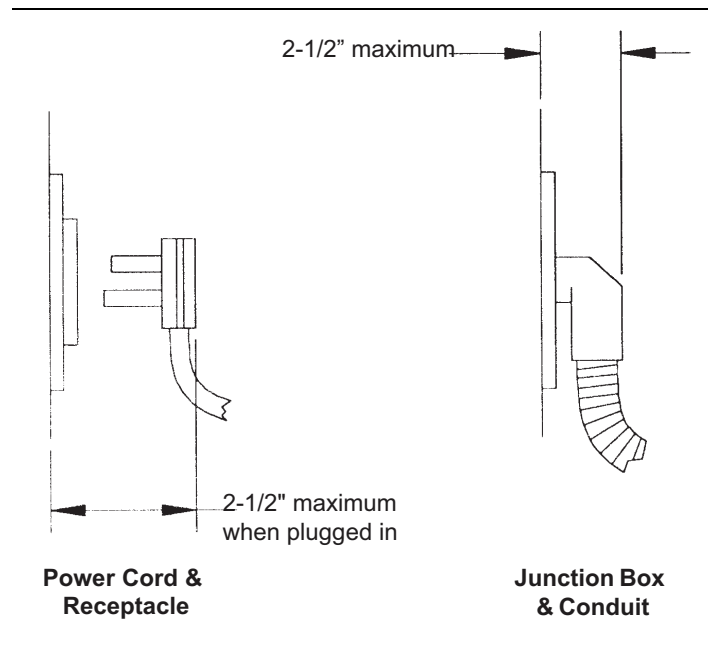

Figure 3b: Wall Connection
- These ranges may be recessed into the cabinets beyond the edge of the front face of the oven (See Figure 2 and Figure 3b).
When the power supply cord or conduit is connected to the mating receptacle or junction box cover, the combined plug/receptacle or junction box cover/conduit connector should protrude no more than 2-1/2" from the rear wall. See Figure 3b.